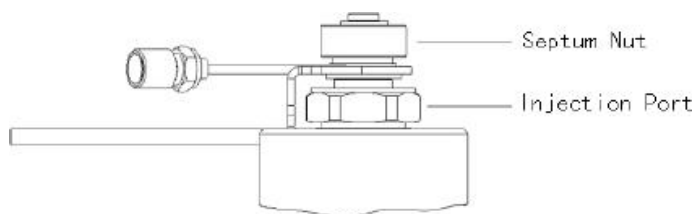

Figure 2-6 Inlet outline
- (1) Hand-tighten the septum nut (Figure 2-6).
- (2) Loosen half circle of the nut.